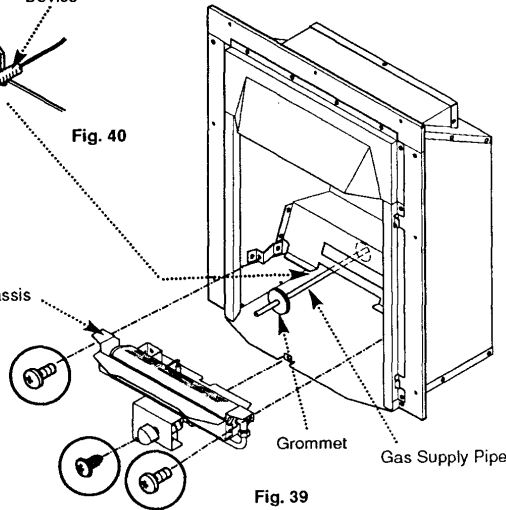

Fig. 39
6. Undo the three screws retaining the burner chassis to the combustion box sides and combustion box base. Withdraw the burner chassis from the fire (Fig. 39).
8. Where applicable, remove the grommet from the gas supply if it is routed through the fire rear panel (Fig. 39).